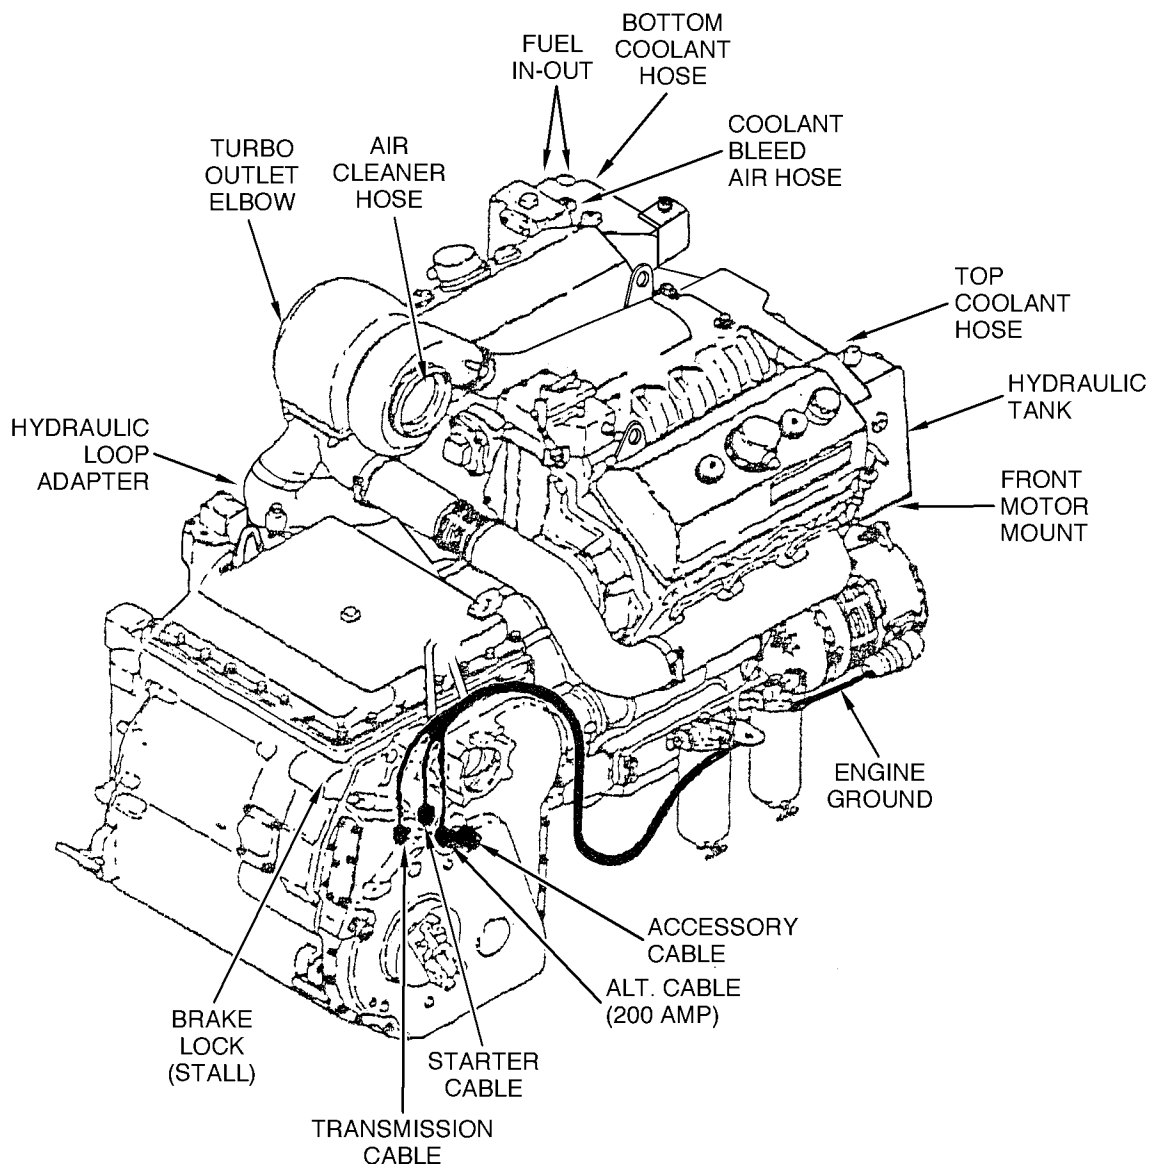

Figure 4-6. Hook-Up List (M113A3/M548A3)
17. Install right brake connecting links, two screws, lockwashers, and flat washers on right transmission brake. See Figure 4-6.
18. Remove two screws from the right side of transmission. Save transmission screws. Install brake stall test tool (Figure 2-28), secure with two screws. Connect brake stall test tool to braking hardware. Use rod-end clevis and rod-end connector. Connect rigid connecting link between two 1/4 inch steel plates and secure with headed pin, washer, and cotter pin. See Figure 4-6.